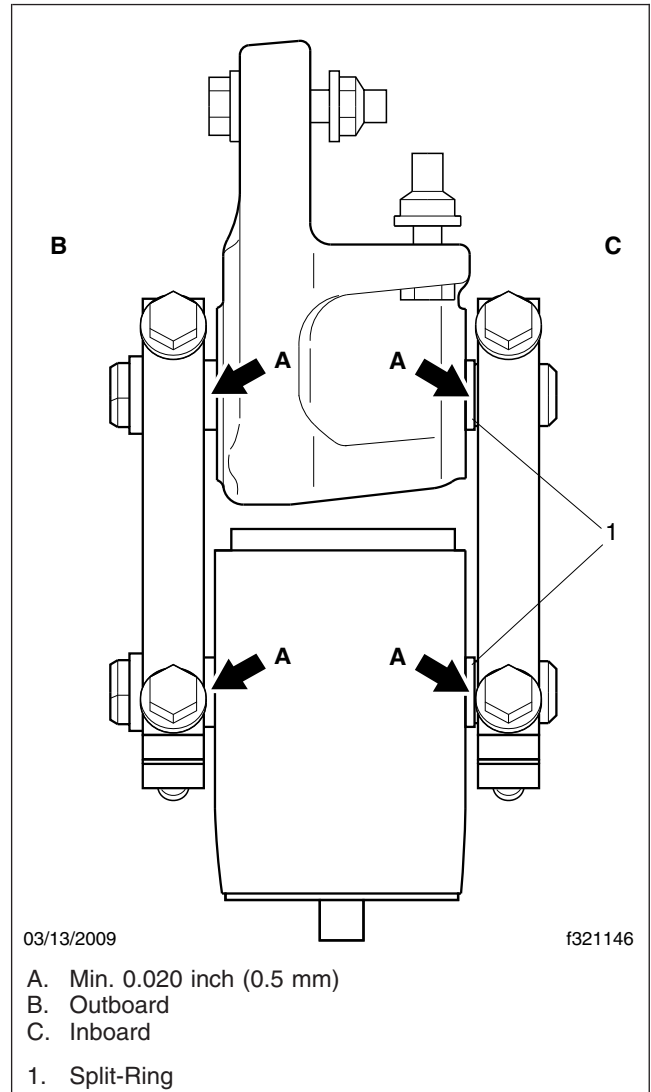

Fig. 3, View from Rear of Spring Looking Forward
- 17.1 Using the threaded spring pin, center the lower rear spring pin in the shackle bracket. The gap on each side should be within 0.080 inch (20 mm) of the other side. The minimum gap on each side is 0.020 inch (0.5 mm). See Fig. 3.